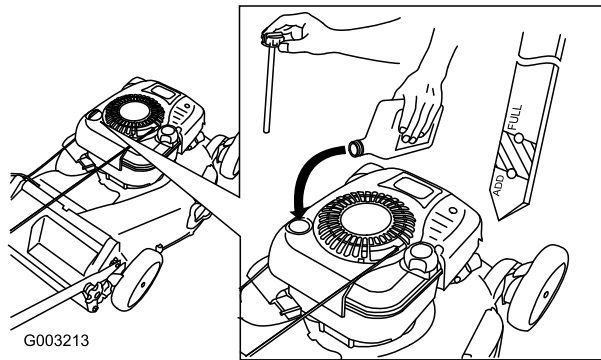

Figure 13
1. Remove the dipstick, wipe it clean, and fully install the dipstick (Figure 13).
2. Remove the dipstick and check the oil level (Figure 13). If the oil level is below the **Add** mark on the dipstick, slowly pour oil into the oil fill tube to raise the oil level to the Full mark on the dipstick. **Do not overfill.** (Max. fill: 26 oz. (0.77 l), type: SAE 30W detergent oil with an API service classification of SF, SG, SH, SJ, SL, or higher.)